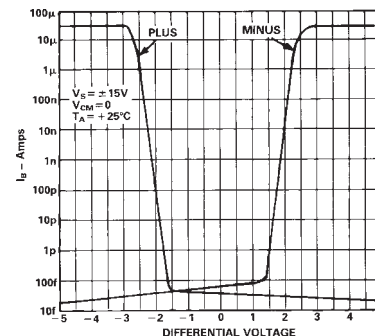

Figure 10. Input Bias Current vs. Differential Input Voltage
4. Figure 10 shows the AD515A's input current versus differential input voltage. Input current at either terminal stays below a few hundred fA until one input terminal is forced higher than 1 V to 1.5 V above the other terminal. Input current limits at 30 μA under these conditions.